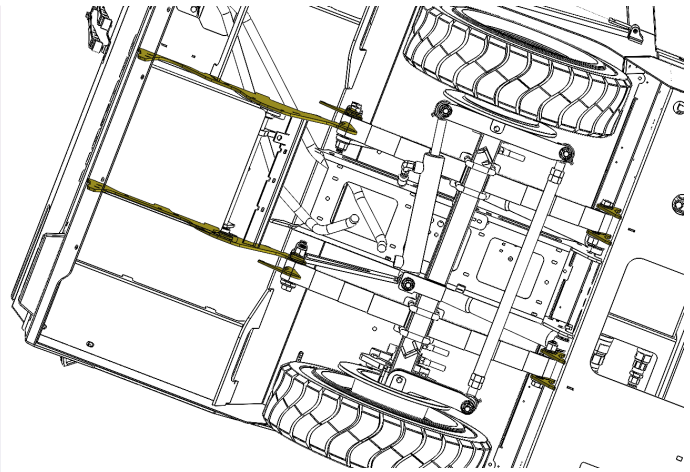

Figure 40. Front Suspension Mounting Tabs.
- Rear suspension mounting tabs (see Figure 40).